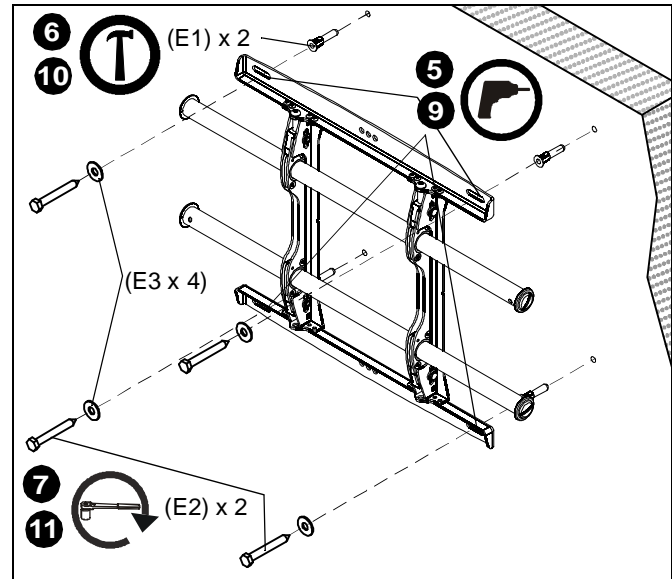

Figure 4
4. Using a level, mark the wall through both upper mounting slots. (See Figure 4)
8. Mark the attachment points for the lower mounting slots. (See Figure 4)
9. Drill one pilot hole at each marking for lower mounting holes. (See Figure 4)
11. Use two 5/16 x 2-1/2" lag bolts (E2) and two 5/16" flat washers (E3) to attach the mount to the wall through the lower mounting holes. (See Figure 4)